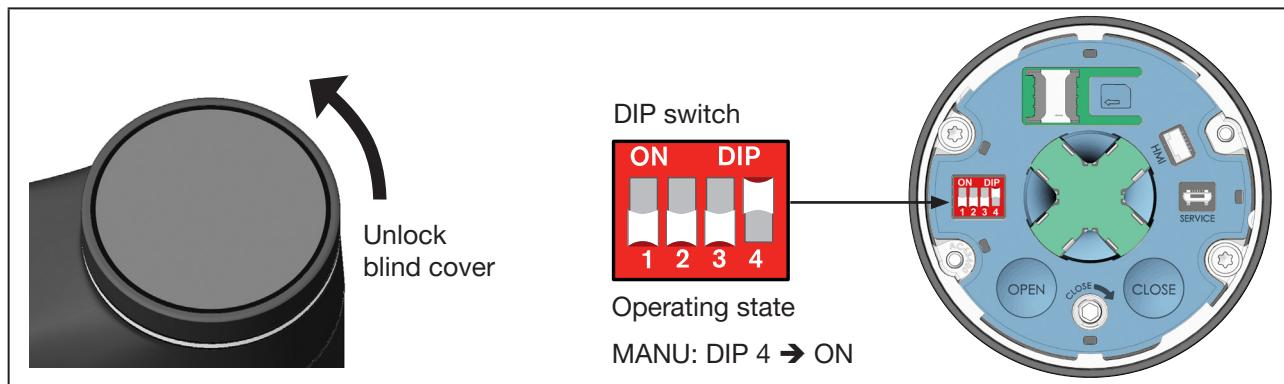

Fig. 40: Setting MANUAL operating state
- Set DIP switch 4 to ON. The device is in MANUAL operating state (see “Fig. 40”).